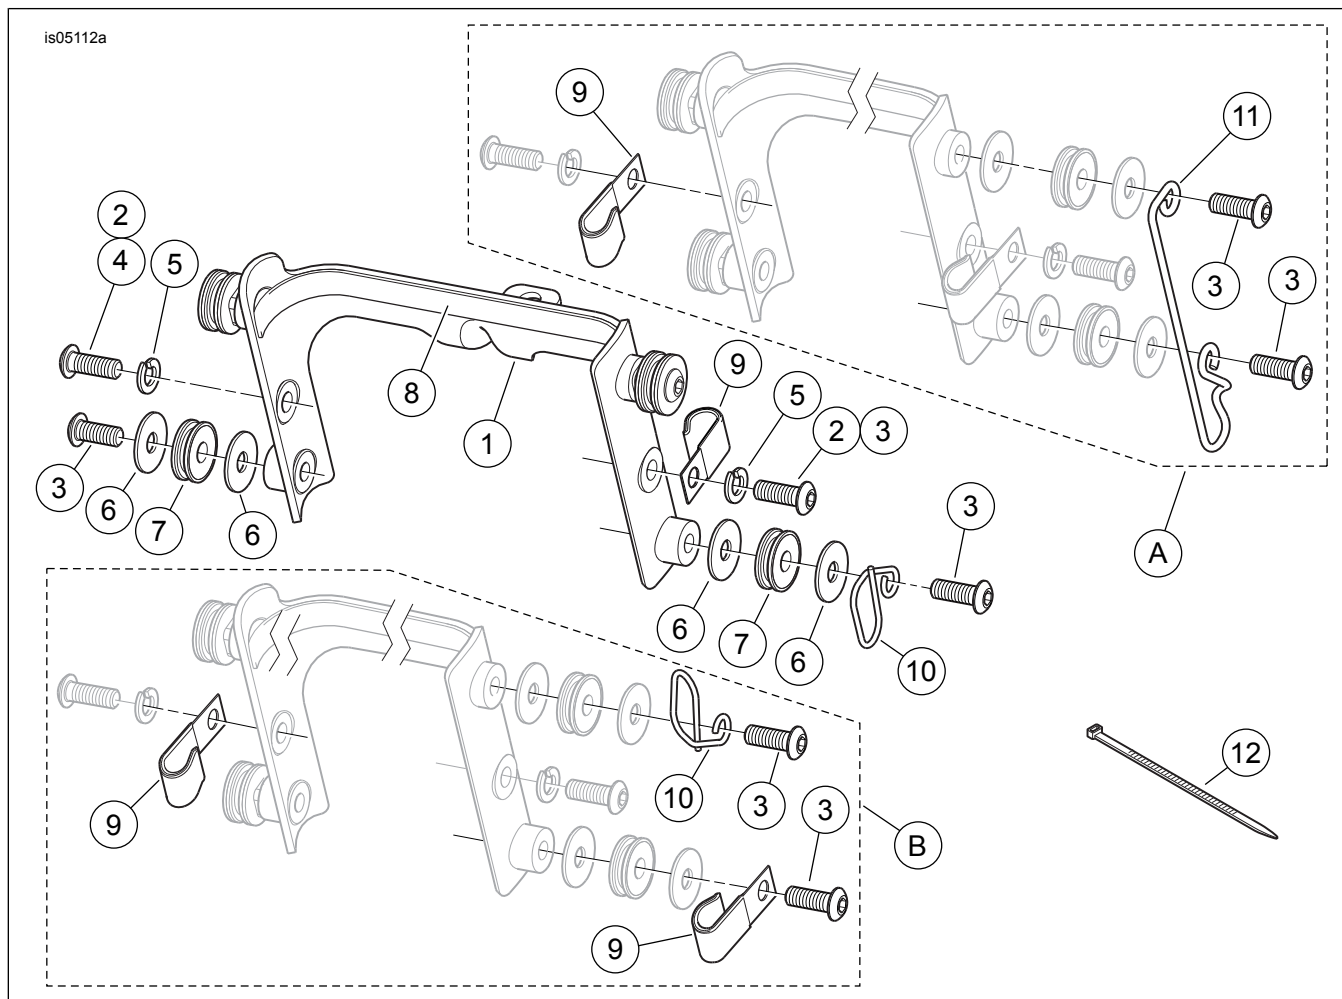

Figure 5. Service Parts: Detachable Windshield Docking Hardware Kit
See Figure 5 and Table 1.
8. See Figure 5. Install foam tape (8) from the kit along the inside of the chrome windshield bracket (1) as shown.
10. Install the left side handlebar riser with the original equipment (OE) washer and locknut, and any related hardware removed in Step 7. Tighten the locknut to 33.9–47.4 N·m (25–35 ft-lbs).
13. See Figure 5. **For ALL models:** Obtain a **new** brake line clamp (9) and two lockwashers (5) from the kit, along with the correct mounting screws for the application as listed below. **For 2007 and 2008 FXSTSSE and FXSTSSE2:** Obtain the second brake line clamp (9) from the kit. **For FXSTS or FXSTSB models WITH passing lamps:** Obtain a 3/4 inch (19 mm) long button head screw (2) for the left side installation and a 7/8 inch (22 mm) long button head screw (3) for the right side installation. **For FXSTS or FXSTSB models WITHOUT passing lamps:** Obtain a 5/8 inch (16 mm) long button head screw (4) for the left side installation and a 3/4 inch (19 mm) long button head screw (2) for the right side installation. **For FLSTS or FLSTSB models (with or without passing lamps):** Obtain a 5/8 inch (16 mm) long button head screw (4) for the left side installation and a 3/4 inch (19 mm) long button head screw (2) for the right side installation.